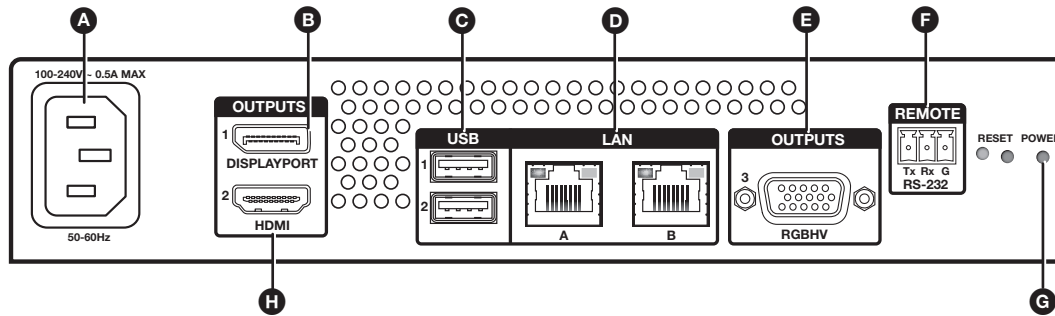

Figure 1. QC 101 Rear Panel
- Connect a display** to the DisplayPort, VGA, or HDMI output connector (see figure 1, **B**, **E**, or **H**).
4. **Connect the keyboard, mouse, and flash drive** (if needed) to the rear panel USB ports (see figure 1, C, on the previous page) to create and save Quantum Elite or Connect configuration project files (see the *Quantum Control Software User Guide*, available at www.extron.com).